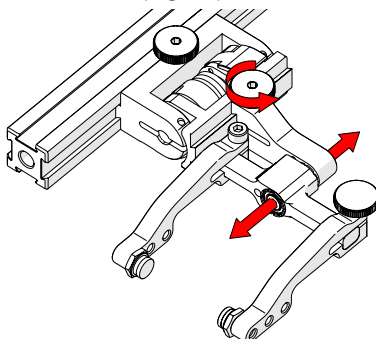

Fig. 64 - Adjust swing arm
3. Use the swing arm knob to position the swing arm (Fig. 64).